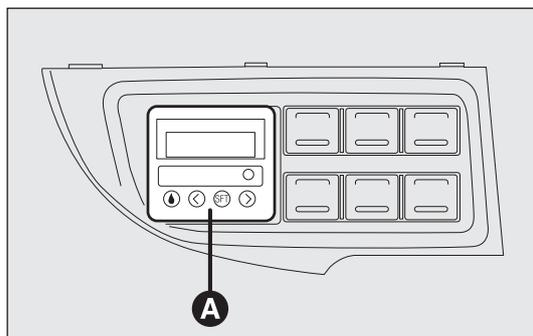

fig. 55
- a digital timer A-fig. 55 for turning the heater on manually or programming the time it comes on.